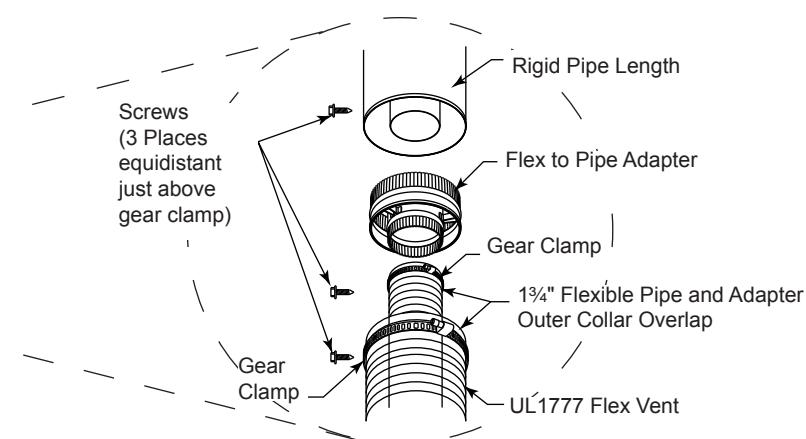

Figure 39 -
2. Review *Figure 39* and corresponding instructions for proper overlap, clamp and screw placement.